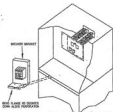

FIG. 2 HB3000 - HB6000 HEATER INSTALLATION
FILLER PLATE INSTALLATION INSTRUCTION (see fig. 2):
PLEASE DO NOT DISCARD (SEE FIG. 2. FOR INSTALLATION INSTRUCTIONS)**
6. For units with SQD breakers install the breaker cover plate provided (see fig.2).